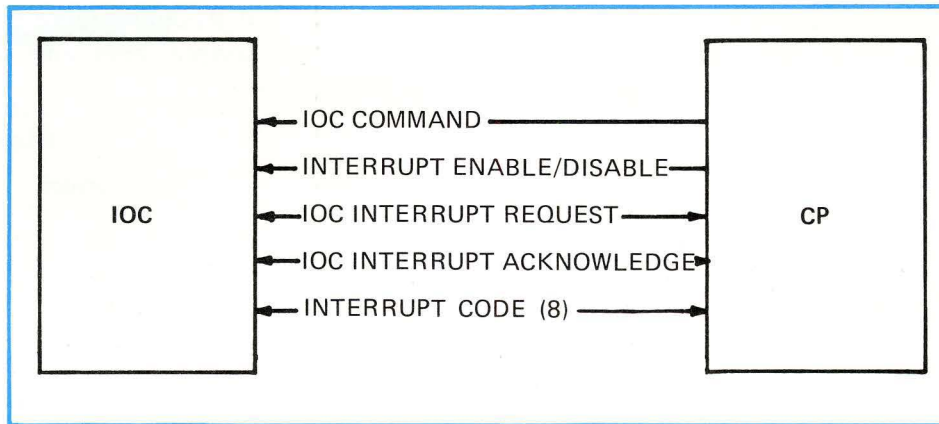

Figure 9. IOC to CP Interface
- IOC – CP interface (see Figure 9)